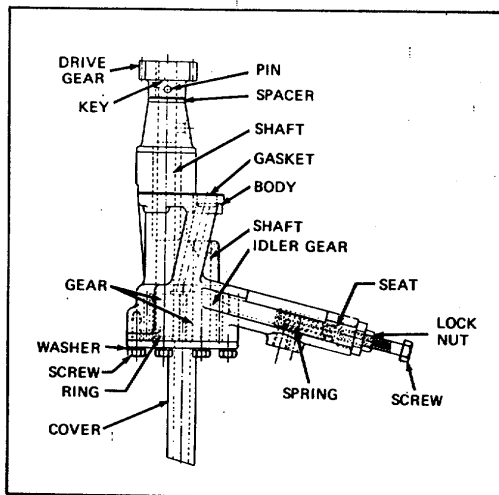

Figure 6-22. Oil Pump
- (1) Remove pin (Figure 6-22) from drive gear, pull gear from shaft and remove key.
- (2) Remove screws and pump cover.
- (3) Remove idler gear and shaft.
- (4) Pull main shaft down through pump body to remove it.
- (5) Press idler gear shaft out of gear.
- (6) Press main shaft through oil pump gear approximately 3/8 inches and remove snap ring. Then press shaft out of gear.